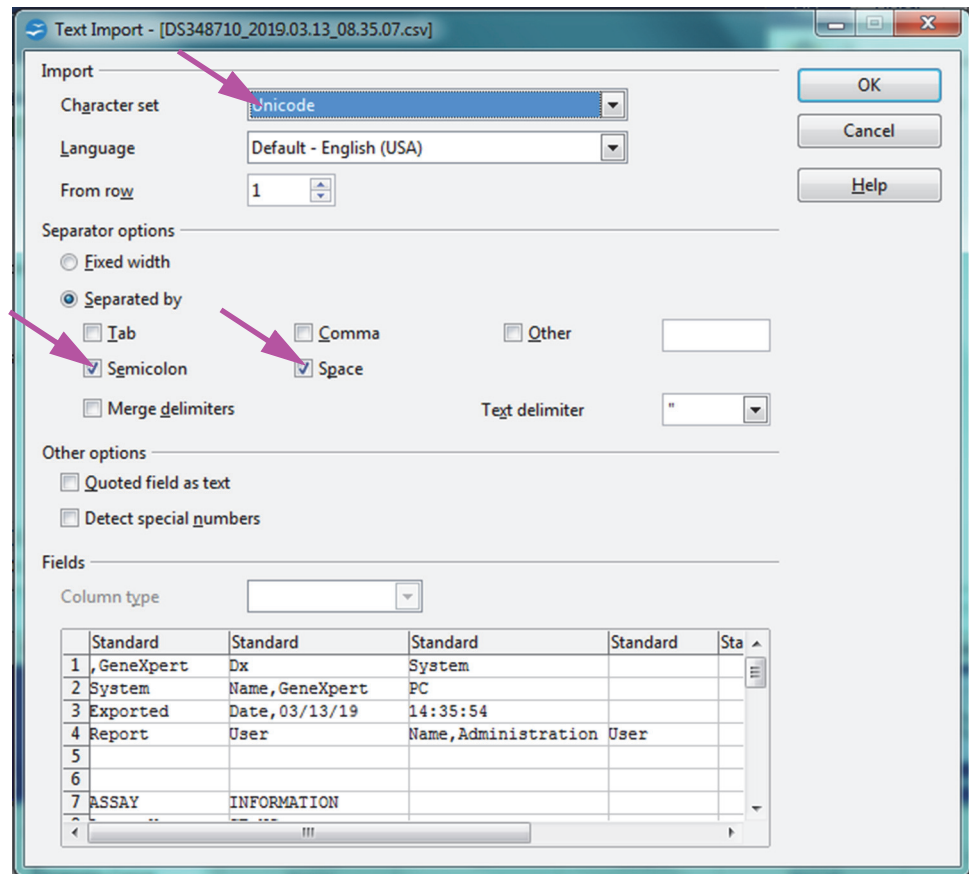

Figure D-3. Text Import Screen, showing Default Settings
3. Click **Next**. When the new screen appears, enter the requested information (name and initials), and click **Finish**. The Text Import screen will appear. See Figure D-3.
4. On the default Text Import screen (see Figure D-3), uncheck **Semicolon** and **Space**.